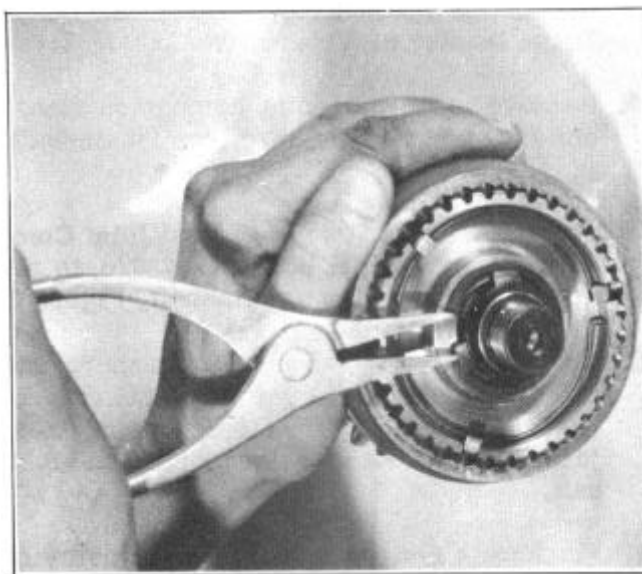

FIGURE 9
- b. Remove shift sleeve hub lock ring with special pliers, KMO-630, Figure 9.